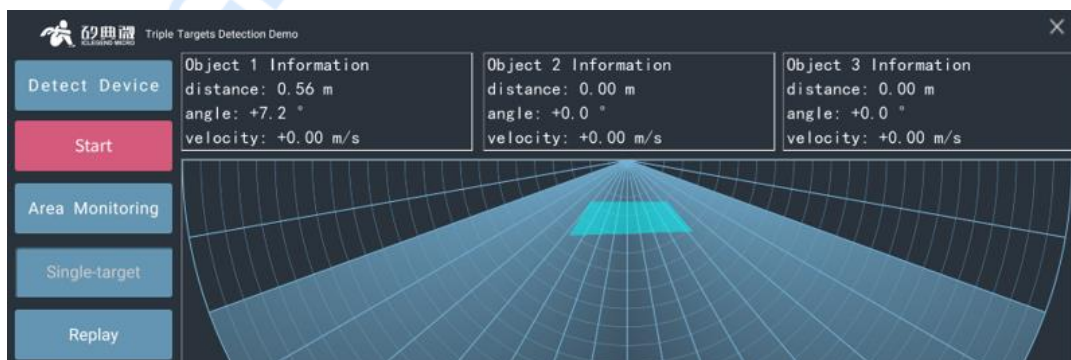
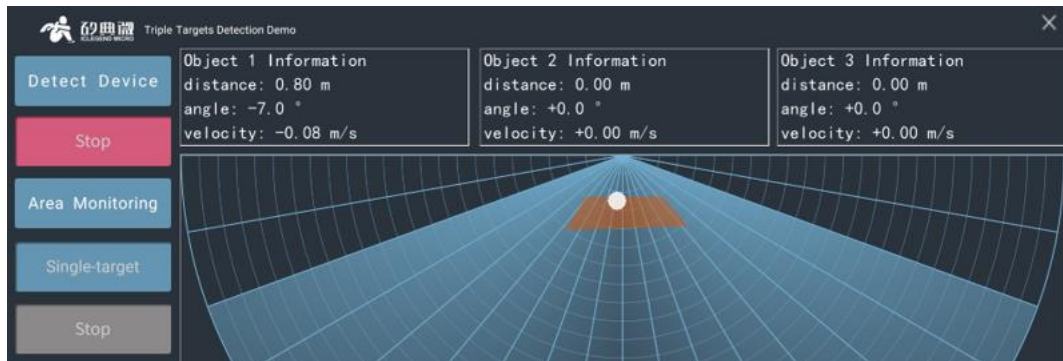
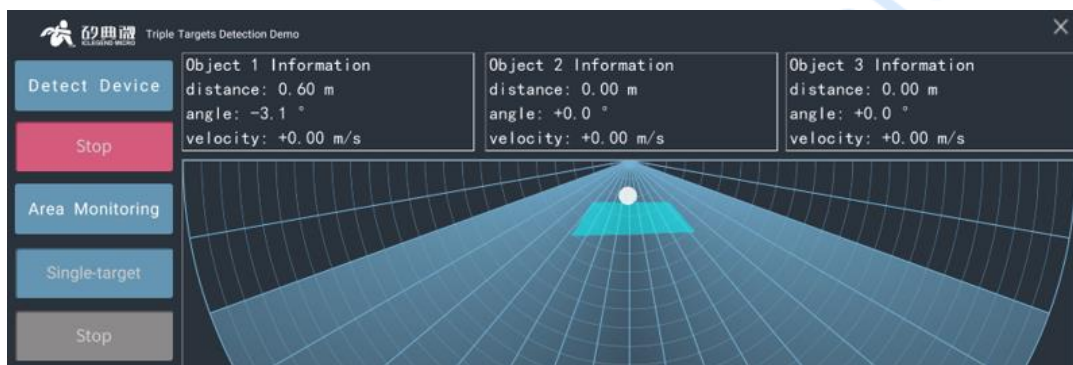

Figure 4-9 Example of a defined monitoring area
Figure 4-10 Target exists in monitoring area
Figure 4-11 No target in monitoring area
Step 3: Click the **Add Monitor Area** button to start defining a monitoring area, click in the radar chart to define the vertexes of the desired monitoring area in clockwise or anti clockwise direction, right-click to finish the process, and the GUI will display the defined monitoring area, an example is shown in Figure 4-9; After setting the monitoring area, if a human target is detected in this area, the background color of this area changes immediately, as shown in Figure 4-10 and Figure 4-11.